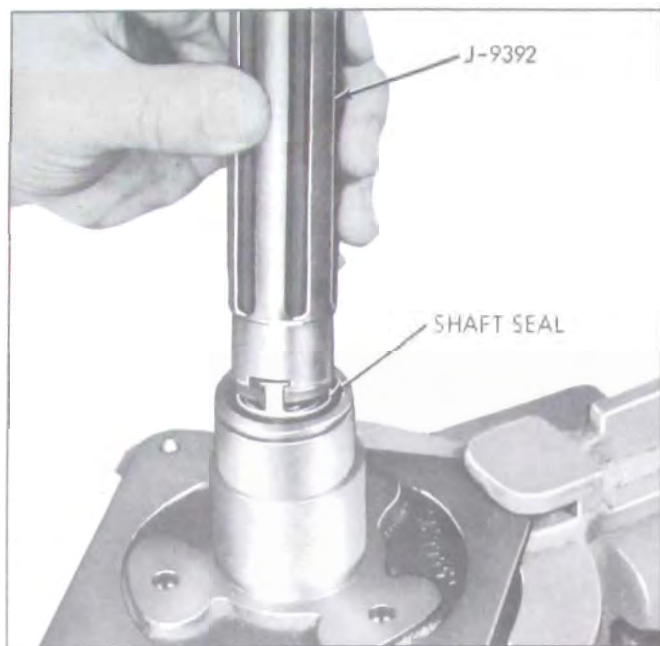

Figure 11-51—Removing Shaft Seal
4. Engage tabs on compressor shaft seal assembly with locking tangs on J-9392 seal installer and remover. Press down on tool and twist clockwise to engage seal. Remove seal assembly by pulling straight out from shaft. See Figure 11-51.